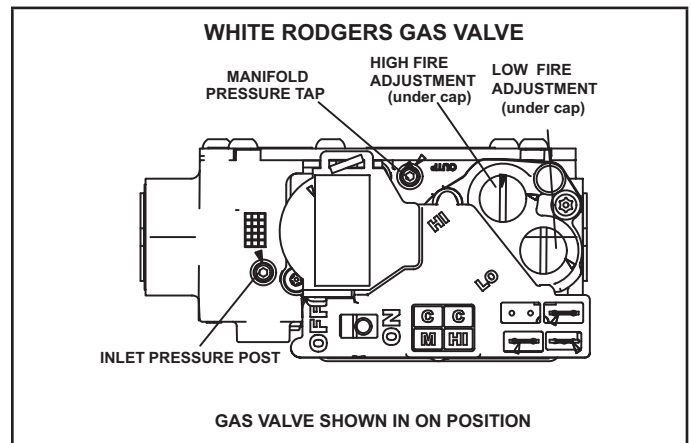

FIGURE 61
Gas Valve Operation (FIGURE 61)
- 6 - Move gas valve switch to **OFF**. See FIGURE 61.
- 8 - Move gas valve switch to **ON**. See FIGURE 61
An inlet post located on the gas valve provides access to the supply pressure. See FIGURE 61. Back out the 3/32 hex screw one turn, connect a piece of 5/16 tubing and connect to a manometer to measure supply pressure. See TABLE 16 for supply line pressure.
A manifold pressure post located on the gas valve provides access to the manifold pressure. See FIGURE 61. Back out the 3/32 hex screw one turn, connect a piece of 5/16 tubing and connect to a manometer to measure manifold pressure.
- 5 - If necessary, make adjustments. FIGURE 61 shows location of high fire and low fire adjustment screws.